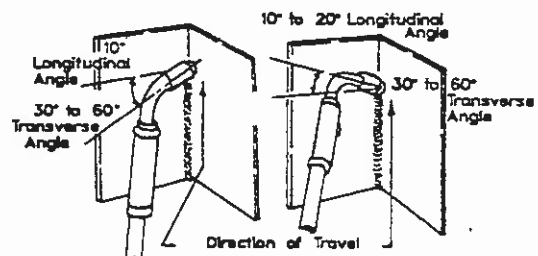

Figure 10, Vertical Fillet Welds
3. Nozzle Angle. Refers to the position of the welding gun in relation to the joint, as shown in Figures 10 thru 12, 14, and 15. The transverse angle is usually one-half the included angle between plates forming the joint. The longitudinal angle is the angle between the center line of the welding gun and a line perpendicular to the axis of the weld.